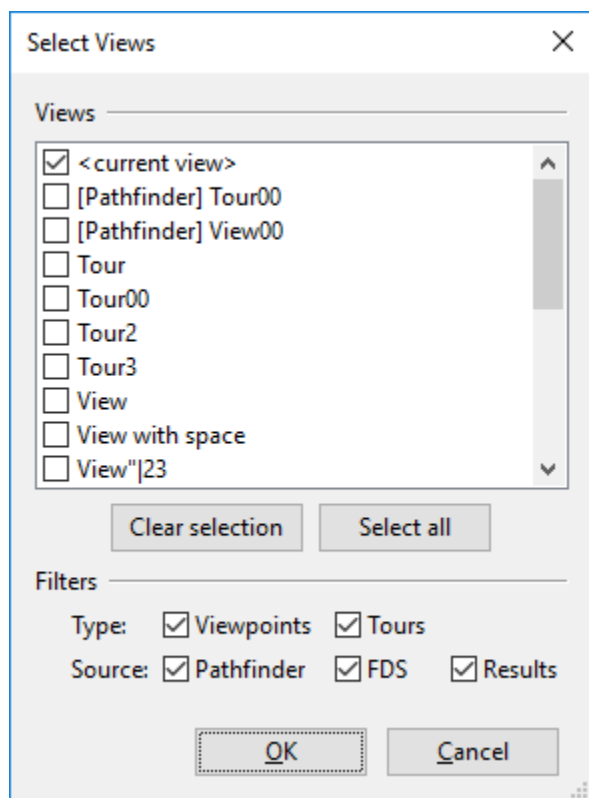

Figure 4-10: Select Views dialog
- **Views:** The views from which to take screenshots. Clicking the link will open the **Select Views** dialog as shown in Figure 4-10.